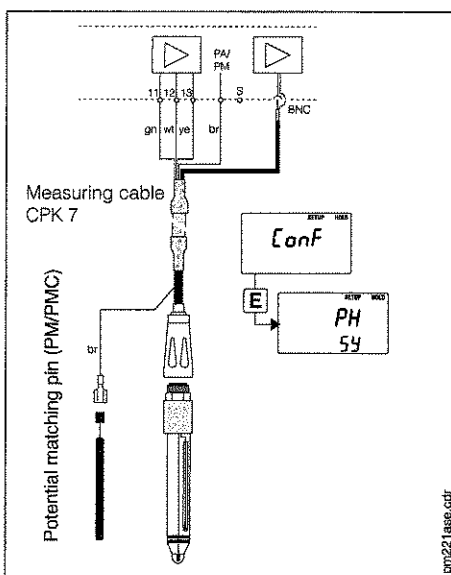

Fig. 4.8 Symmetrical high-impedance pH electrode connection
- potential matching connector present – symmetrical connection (see figure 4.8)